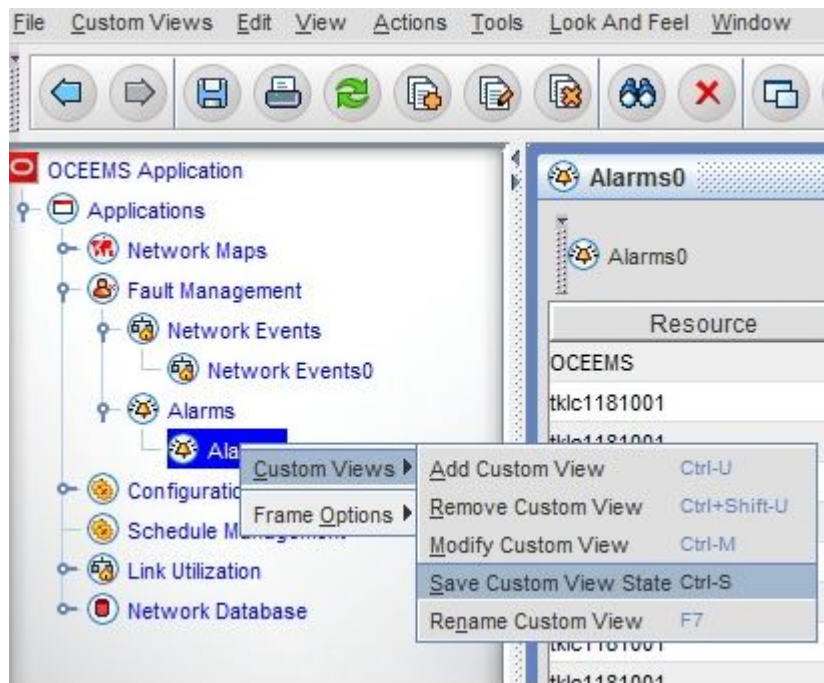

Figure 126: Saving Custom View By Using Left Navigation Pane
- Right-click on the custom view node under the Network Events or Alarms node in the left navigation pane, and choose **Custom Views > Save Custom View State** as shown in Figure 126: Saving Custom View By Using Left Navigation Pane.